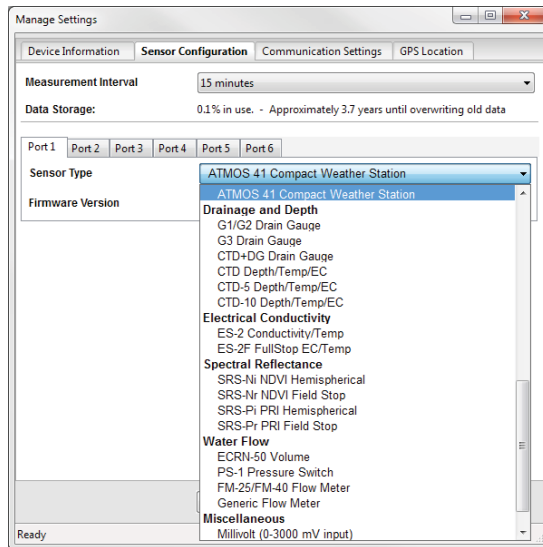

Figure 6 Select Sensor Type dropdown
- Ensure the correct sensor type is listed in each port tab (Figure 6).